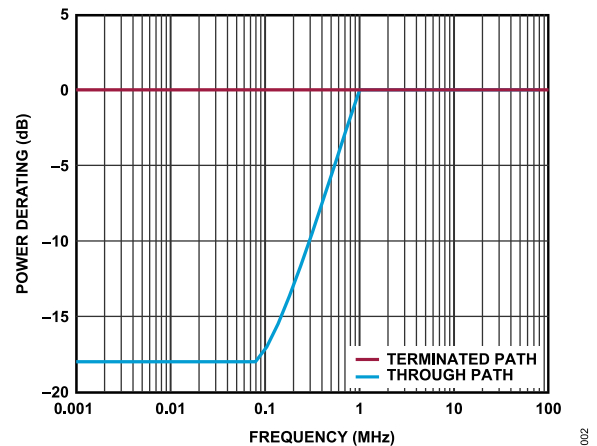
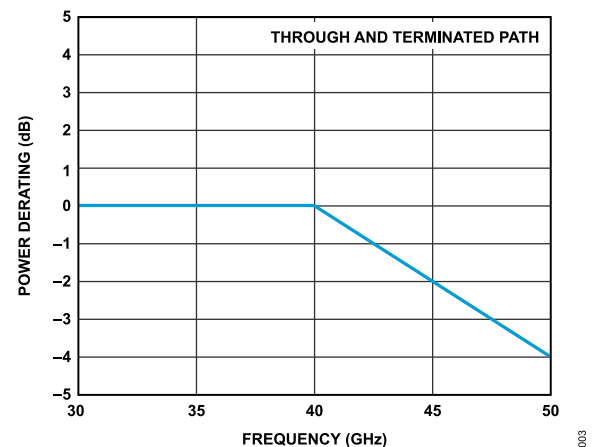

Figure 2. Power Derating vs. Frequency, Low Frequency Detail, $T_{CASE} = 85^{\circ}C$
Figure 3. Power Derating vs. Frequency, High Frequency Detail, $T_{CASE} = 85^{\circ}C$
- ¹ For power derating over frequency, see Figure 2 and Figure 3.